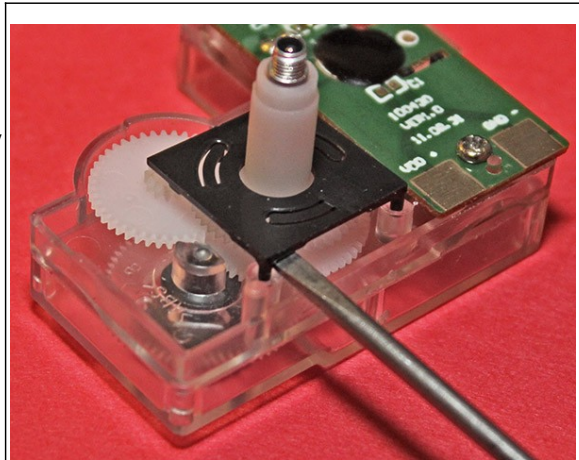
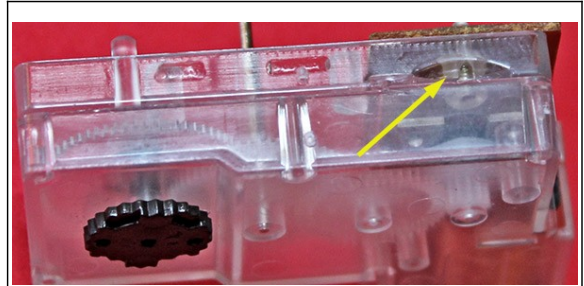

Fig. 56: Removing the gear retainer.
Fig. 57: Thumbnail slot in housing .
- The housing halves are held together with pins on one side that friction-fit into holes on the other side. Insert your small screwdriver between the housing halves at one of the thumbnail slots, and gently pry or twist to split the housing apart. Work your way around the housing until the halves are free. See Fig. 56 and Fig. 57.